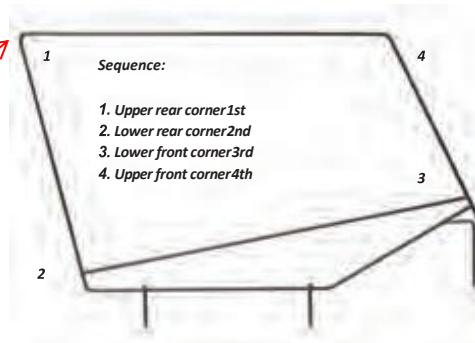

Fig 1
1. Lay a large towel on the ground and place the upper door skin on the towel to prevent scratching. Un-zip the door skin window and un-due all hook and loop fasteners on the door skin. IMPORTANT: See Fig 1 for the installation sequence on installing the door skin to the door frame. Place the metal frame gently into the top upper rear corner “pocket”.